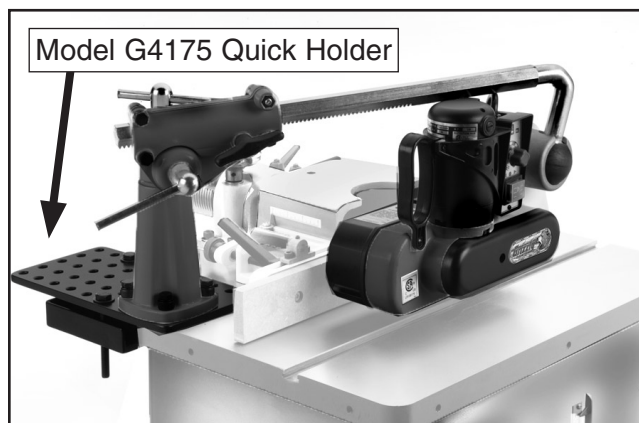

Figure 14. Typical power feed mounting using an optional Model G4175 Quick Holder.
17. Use the levers to lock the power feeder into position, such as the example shown in **Figure 14**.